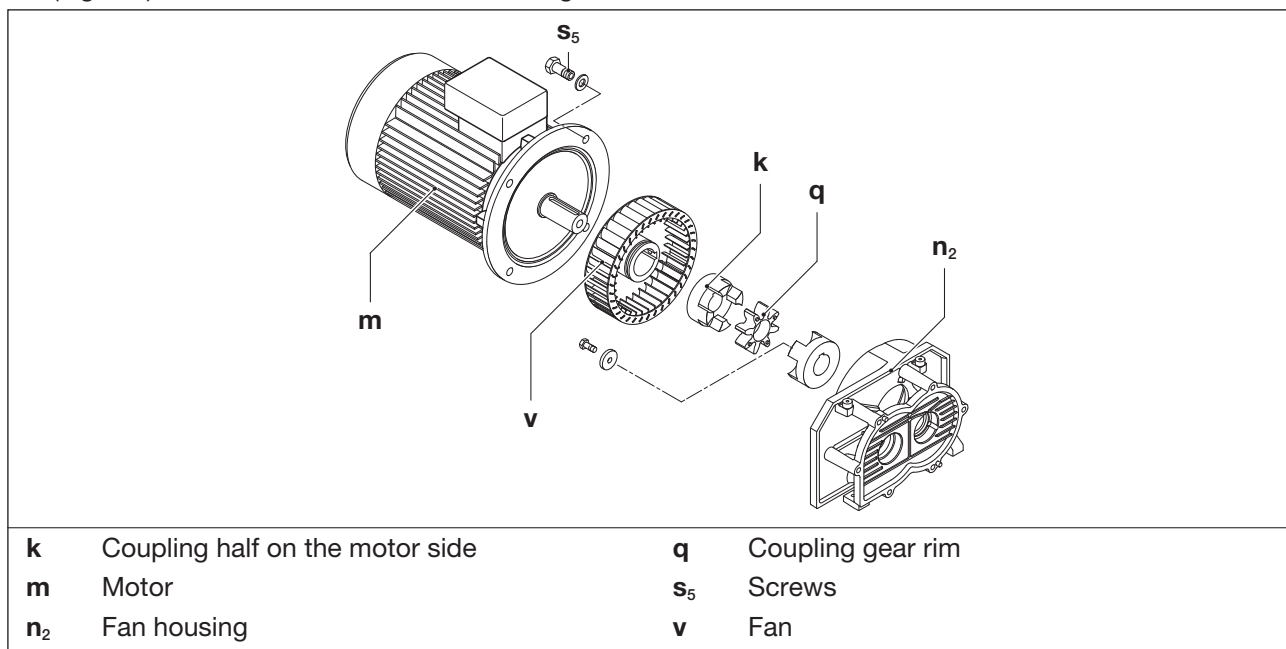

Fig. 9 Coupling
The coupling sprocket (Fig. 9/q) is subject to wear and must be checked regularly (at least 1 x per year). The fan (Fig. 9/v) should also be checked for damage from time to time.
- b) Hook the motor (Fig. 9/m) in the eyebolts and lift it by means of lifting gear. If no eyebolts exist, suspend the Motor with round loops.
- c) Release the screws (Fig. 9/s₅) on the motor flange and axially pull the motor with the half of the coupling on the motor side (Fig. 9/k) off the fan housing (Fig. 9/n₂).
- d) Check the sprocket (Fig. 9/q). If the sprocket is damaged or worn, replace it.
- e) Check the fan (Fig. 9/v) and replace it, if necessary.
- f) Axially push on the gear rim and motor with coupling half on the motor side again and fix to the motor flange using the screws (Fig. 9/s₅). Tightening torque: 84 Nm